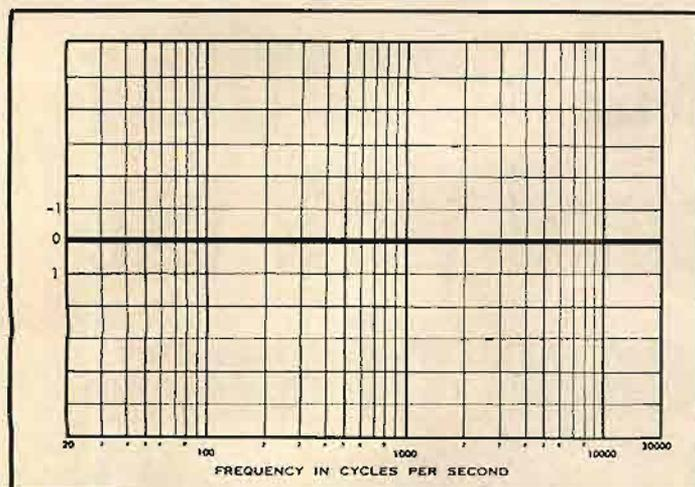

Fig. 6. Frequency response of mixer at 1 volt.
1. Frequency response flat to 20ke (see Fig. 6)